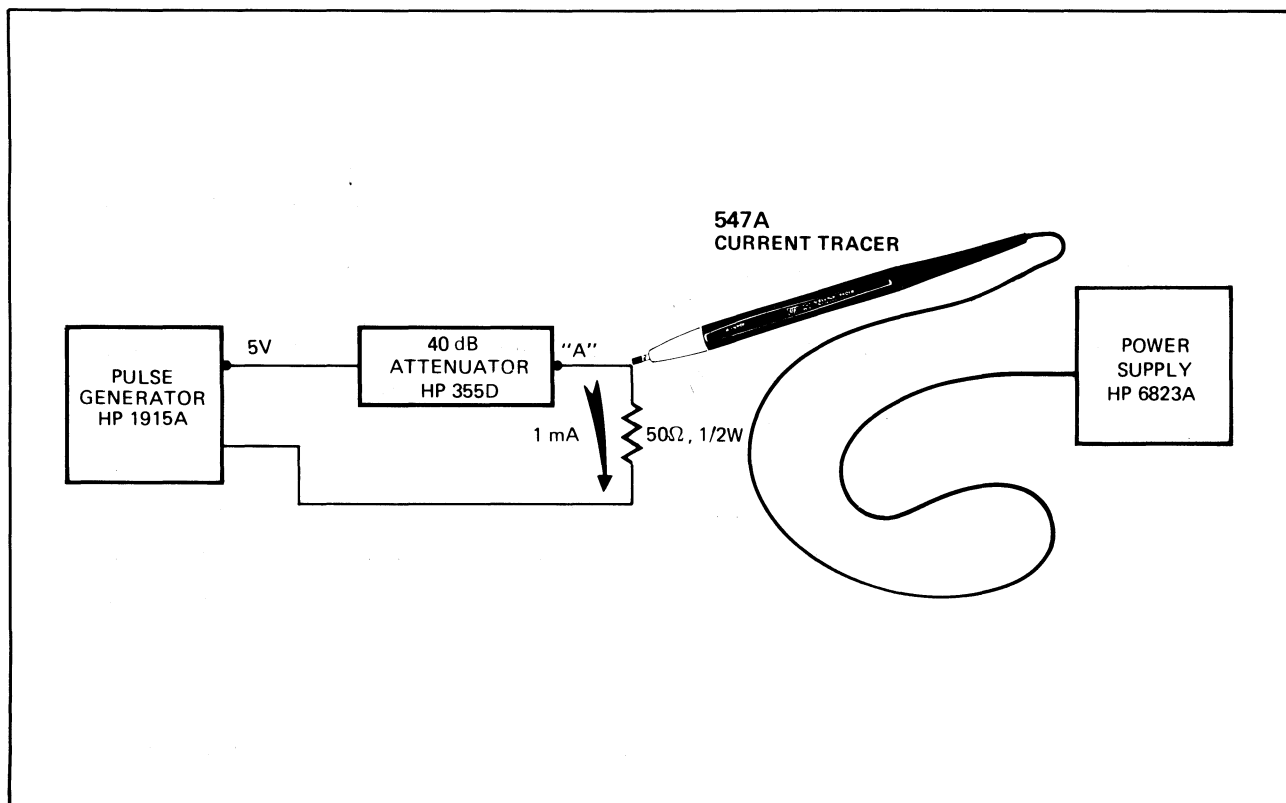

Figure 7. Setup for 1 mA Test
**ADJUSTMENTS.** Potentiometer R21 is the only maintenance adjustment in the Model 547A. This trimmer may be used as a supplementary adjustment to the gain control (R3) and as a troubleshooting adjustment. Refer to information adjacent to the schematic diagram. Preliminary adjustment of R21 is made by setting the wiper arm approximately midway in its range. If this setting results in too little or too much sensitivity, with R3 set at the 1 mA end, then R21 can be adjusted to correct this. To assure there is 1 mA in the test circuit — refer to Figure 7.
With test equipment connected as shown in Figure 7, proceed as follows: